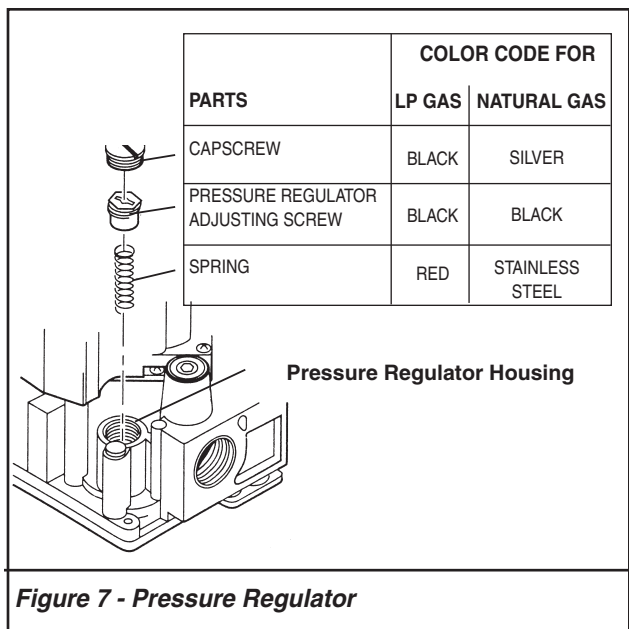

Figure 7 - Pressure Regulator
adjustment screw and spring. (Refer to **Figure 7.**)
- Install the replacement spring, supplied in the Natural Gas Conversion Kit. (Refer to **Figure 7.**)
- Install the new cap screw. (Refer to **Figure 7.**)